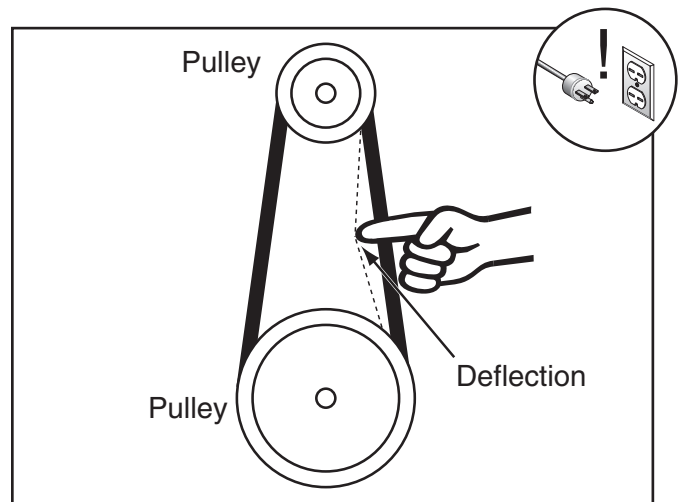

Figure 51. Checking belt deflection.
4. Press belt with moderate pressure in center to check tension. Belt is correctly tensioned when there is approximately 1/2" deflection when pushed as shown in **Figure 51**.